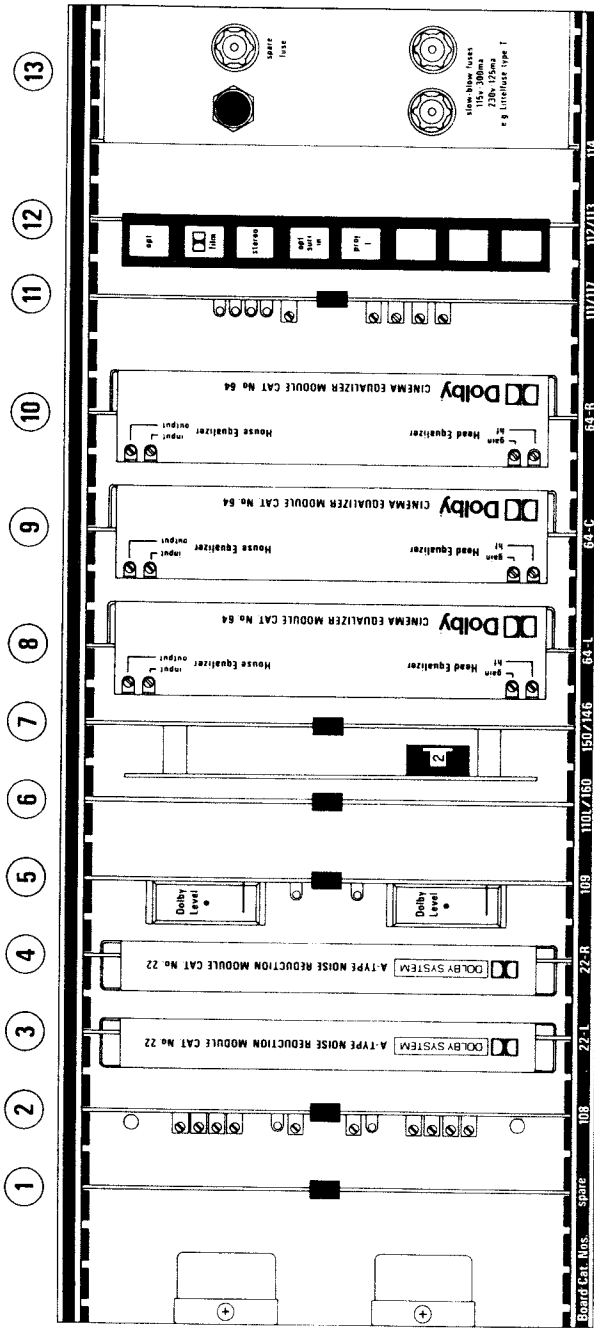

Fig. 7.1.1 Front view of CP50
Numbers, in the text ie. ③, identify the modules and cards, as indicated in the drawing Fig. 7.1.1 at the beginning of this section.